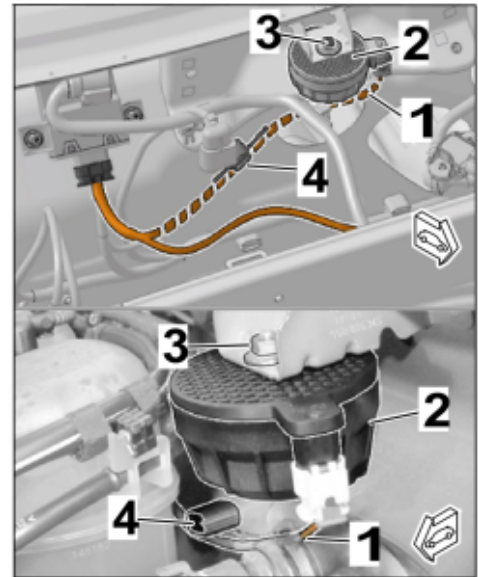

Figure 20
2.3 Install engine noise pulse sender (⇒ Figure 20)
2.3.1 Route branch with connector (2-pin) to the engine noise pulse sender holder (⇒ *Figure 20 -top-*).
Secure engine noise pulse sender, facing downwards, in the plenum panel holder using M6 hexagon collar nut (1 x) (⇒ *Figure 20*)
2.3.4 Install cable clip on bulkhead stud (⇒ *Figure 20 -4-*).